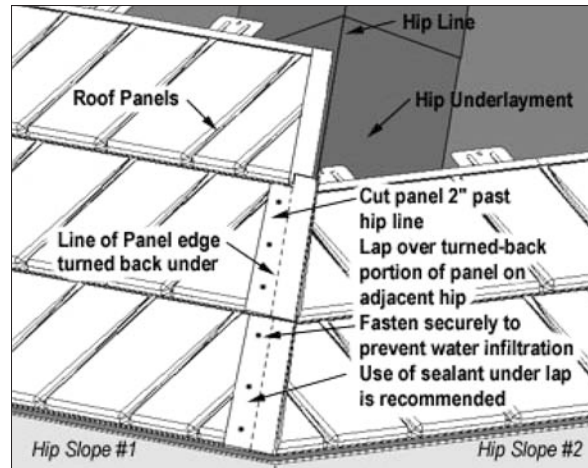

FIGURE 1-28 Hip Slope #1 and #2 Construction
3. At the center of the hip and/or the junction of the panel from Hip Slope #1 it may be necessary to form the panel from Hip Slope #2 to roll up and over the down-turn flange of the panel on Hip Slope #1. The joint of these two panels should be tight and the use of a site applied sealant is recommended. *See Figure 1-28.*